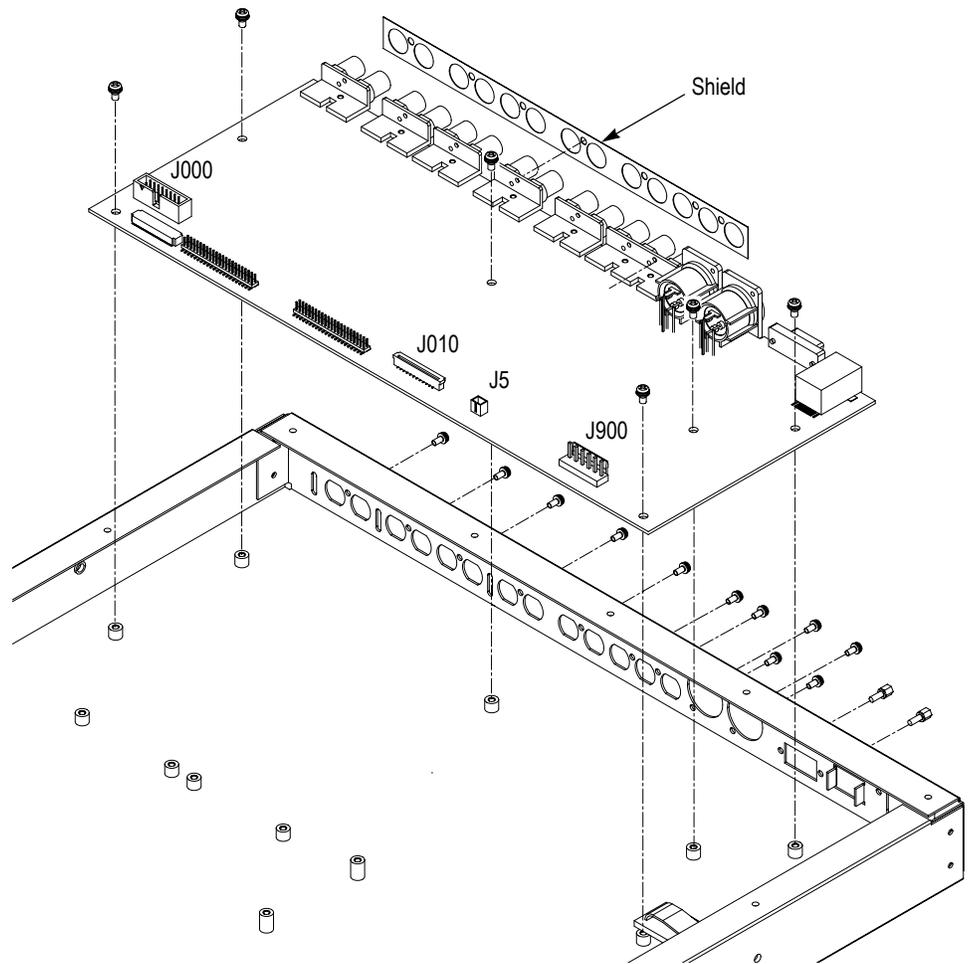

Figure 6: Removing the A10 Main board
10. Use a screw driver with a #1 Phillips tip to remove the eleven screws securing the A10 Main board to the rear of the chassis. See Figure 6.
11. Use a 5 mm size nut driver to remove the two Hex-headed mounting posts securing the GPI connector to the chassis. See Figure 6.
12. Use a screw driver with a #2 Phillips tip to remove the six screws securing the A10 Main board to the bottom of the chassis. See Figure 6.